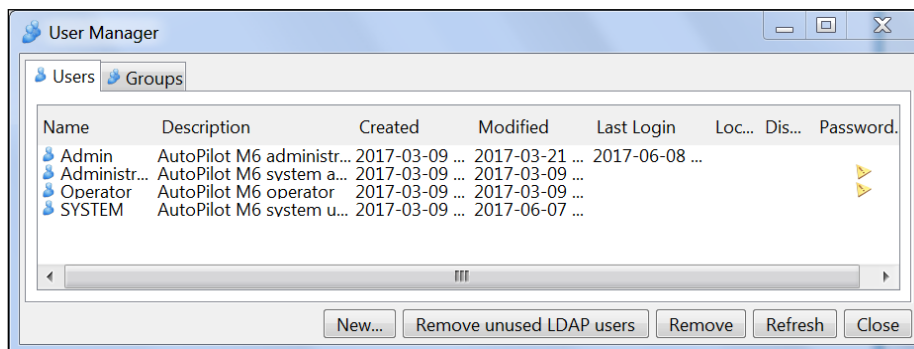

Figure 4-5. User Manager: Users Folder
Users: The **Users** folder (Figure 4-5) is the default view. It lists all the registered users in your meshIQ network. It provides information about the user (Table 4-3) and links you to individual user profiles and status. Click a user record to view the user properties.
1. From the *User* folder (Figure 4-5) in the *User Manager* click **New**. The *New User* screen is displayed.